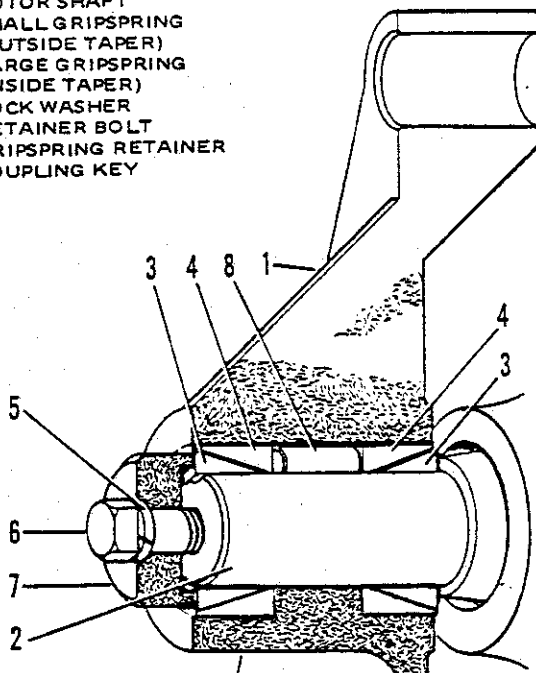

Figure 6-1. Gripspring Installation
5. Install gripsprings (52), key (54), drive coupling (53), retainer (49), lock washer (51), and retainer bolt (50) as shown in figure 6-1.